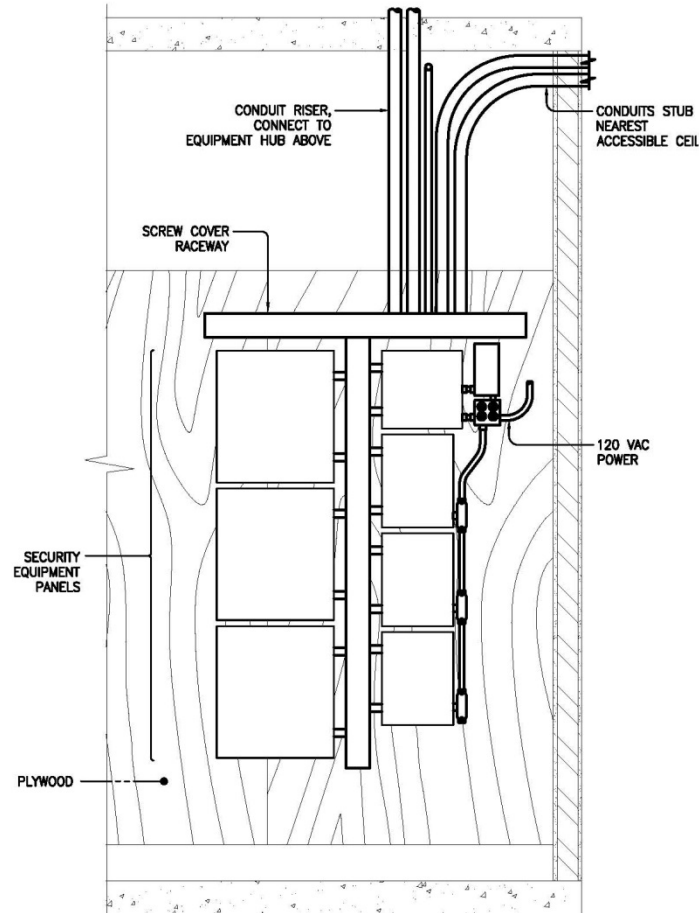

Figure 4.1: Sample Conduit & Equipment
- D. Security cable in equipment rooms must always run in conduit. Security equipment hubs should utilize a 6" high x 6" deep x 4' long screw cover metallic raceway above security equipment hub locations. Sizing of the raceway will vary from project to project. Provide EMT conduit from the raceway to security equipment hub raceways above and below as needed. Provide the appropriate quantity of EMT conduit run from the raceway to the nearest accessible ceiling for security devices located on the same floor. See Figure 4.1 for sample layout.